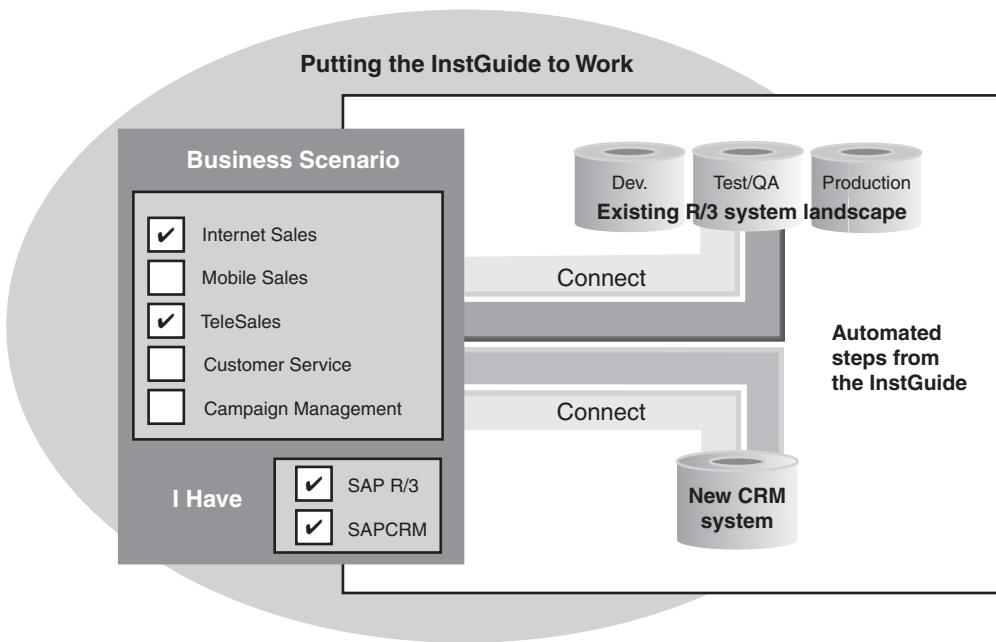

FIGURE 11.1 The InstGuide for CRM is put to work, preparing for an automated mySAP.com CRM installation.
- A single implementation tool, the System Landscape Implementation Manager, rather than multiple tools and approaches, is used to install all applicable mySAP solutions. The actual installation process is performed with the SAP System Landscape Implementation Manager, which supports many current and all forthcoming mySAP components and platforms. And this tool also supports installing multiple components in a one-step process, as illustrated in Figure 11.1. By leveraging the Configuration Assistant's output file and the latest InstGuides, Master Guides, and other tools, SAPinst can automatically perform complex mySAP-specific and cross-component scenario installation processes, ultimately making for a smooth and repeatable technical implementation.